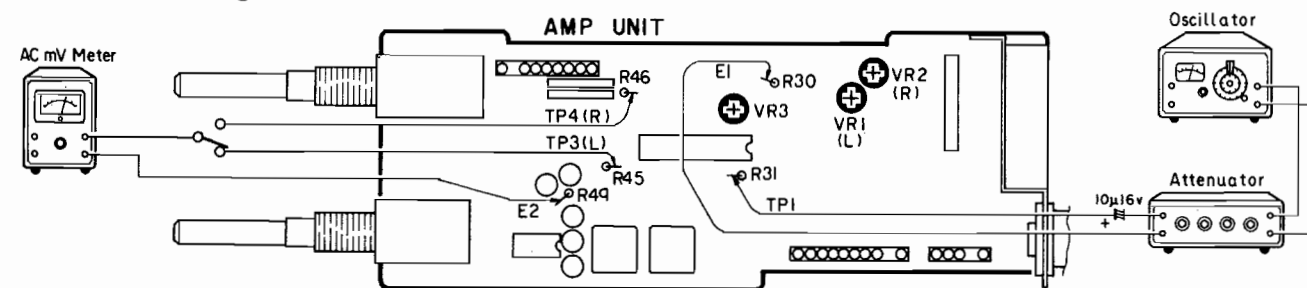

Fig. 33
- Connection Diagram (shown in Fig. 33)